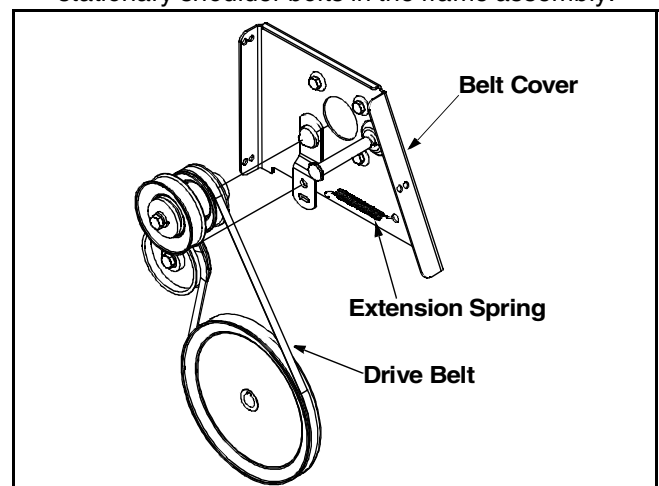

Figure 21
- Unhook the extension spring from the belt cover plate. See Figure 21.
- Remove drive belt from the engine pulley and bottom drive pulley. Refer to Figure 21.